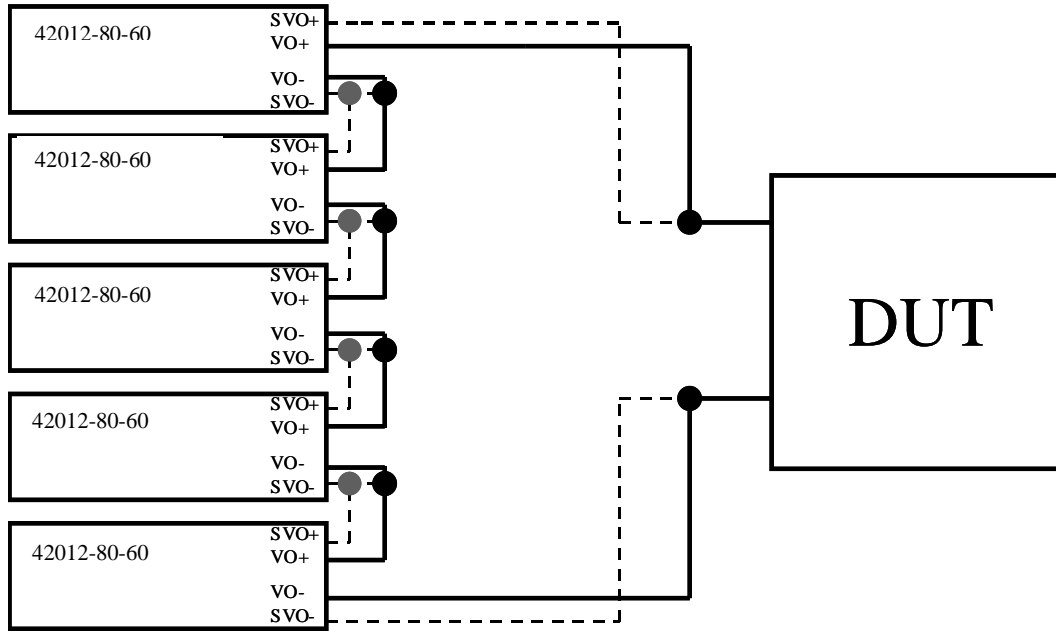

Figure 3-28
1. Figure 3-28 is the series connection.